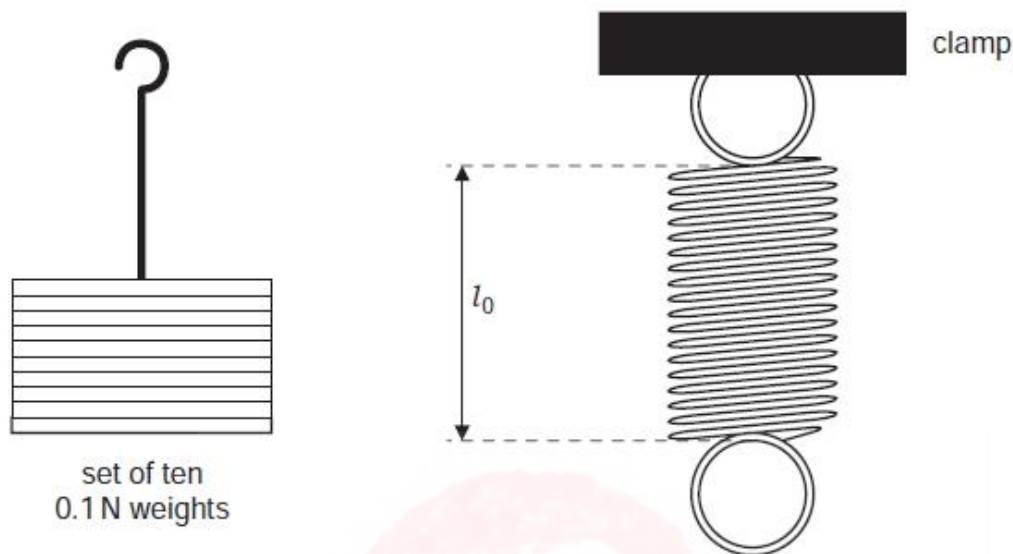

Fig. 5.1
- 5 (a) An IGCSE student is investigating the relationship between the extension of a spring of unstretched length  $l_0$  and the load hung on the spring. The apparatus is shown in Fig. 5.1 below. The spring is shown larger than its actual size.